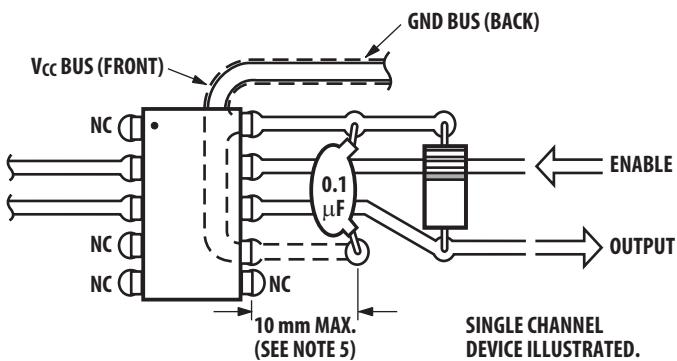

Figure 15. Recommended printed circuit board layout
2. By passing of power supply line is required, with a 0.1 μF ceramic disc capacitor adjacent to each optocoupler as illustrated in Figure 15. Total lead length between both ends of the capacitor and the isolator pins should not exceed 20 mm.